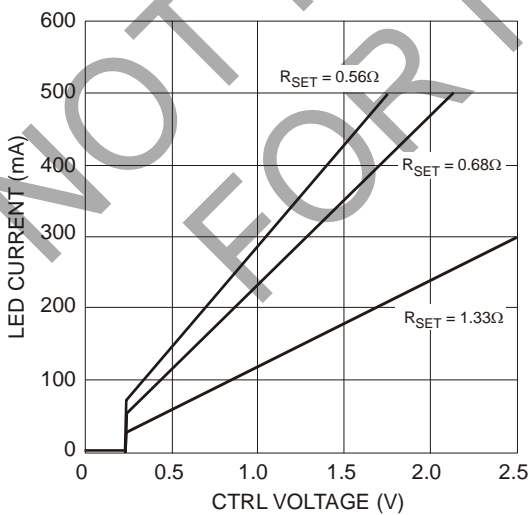

Figure 6 LED Current vs. V_{CTRL}
7. Refer to figure 6 for the device derating curve.